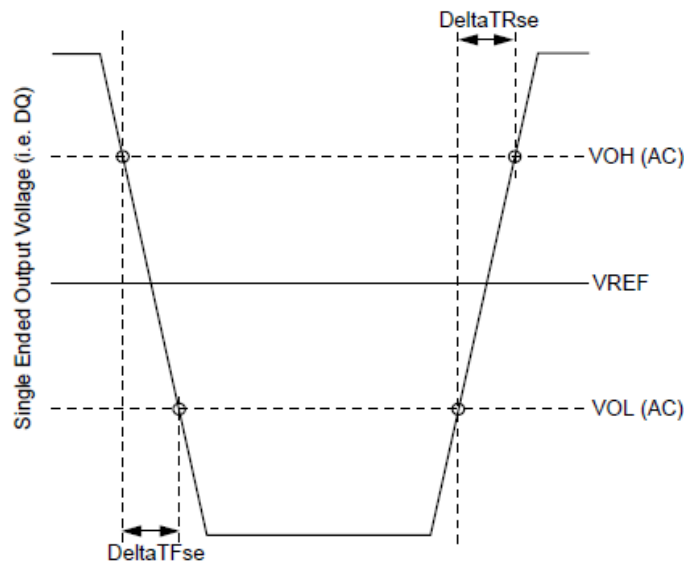

Figure 27 — Single Ended Output Slew Rate Definition
With the reference load for timing measurements, output slew rate for falling and rising edges is defined and measured between VOL(AC) and VOH(AC) for single ended signals as shown in Table 39 and Figure 27.